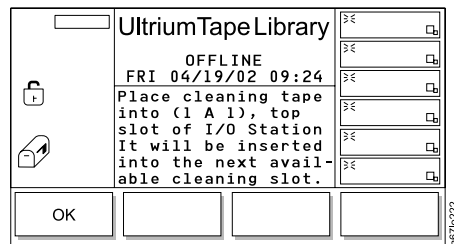

Figure 159. Cleaning Tape screen
- If no cleaning cartridge is present in the library (each of the three rectangular boxes contain no shading), import a cleaning cartridge by pressing the button below the **Import** softkey. The Cleaning Tape screen displays (see Figure 159).